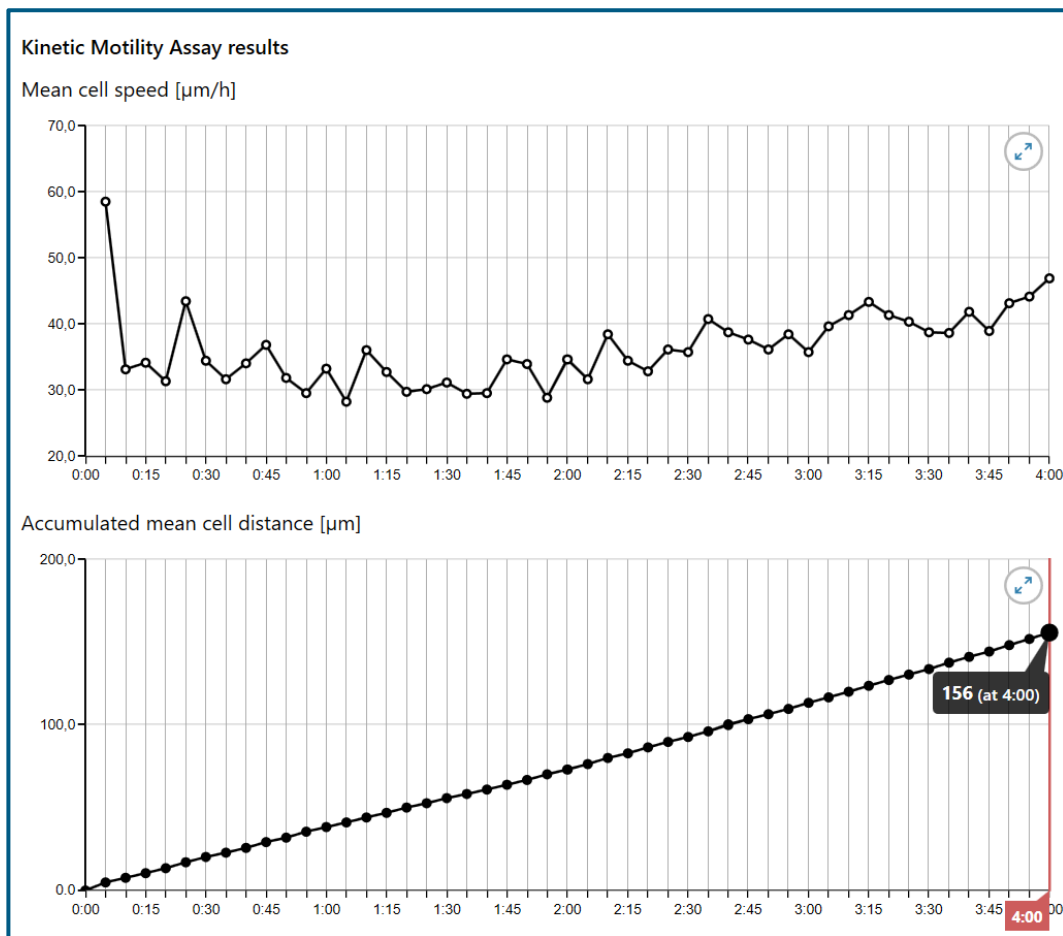

Figure 2. The *Kinetic Motility Assay* results page. Black balloon shows the distance cells have accumulated in 4 hours, in this case: 156 μm .
1. Follow the *Kinetic Motility Assay Protocol* until the graphs are drawn (fig.18 in *Kinetic Motility Assay Protocol*). In the graph showing accumulated mean distance (bottom graph in fig. 18), the distance covered after 4 hours is seen by hovering the mouse pointer over the last data point on the time scale (X-axis, black balloon in fig. 2, lower graph). From this value mean speed ($\mu\text{m}/\text{min}$) can be calculated as described in the *Calculations box* below.